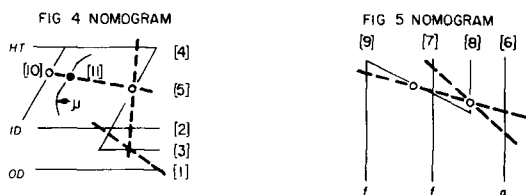

fig. 5. Nomogram for grid-dip oscillator/communications receiver frequency data.
Directions for use. The following directions for using the nomogram are augmented later by a step-by-step example. For now, noting the sketches at the bottom of fig. 5, the directions are as follows.
3. Referring to the fig. 5 nomogram, from right to left, and knowing the values of a and f from the grid-dip oscillator frequency measurements, span from the a value on line 6 to the f value on line 7. Lightly mark where the straightedge crosses line 8.*
3. Go to the nomogram in fig. 5. Span the straightedge
*On lines 6 through 9 of fig. 5, two quantities represent each line. In each case, either one can be used, whichever is convenient, as the lines are scaled accordingly.